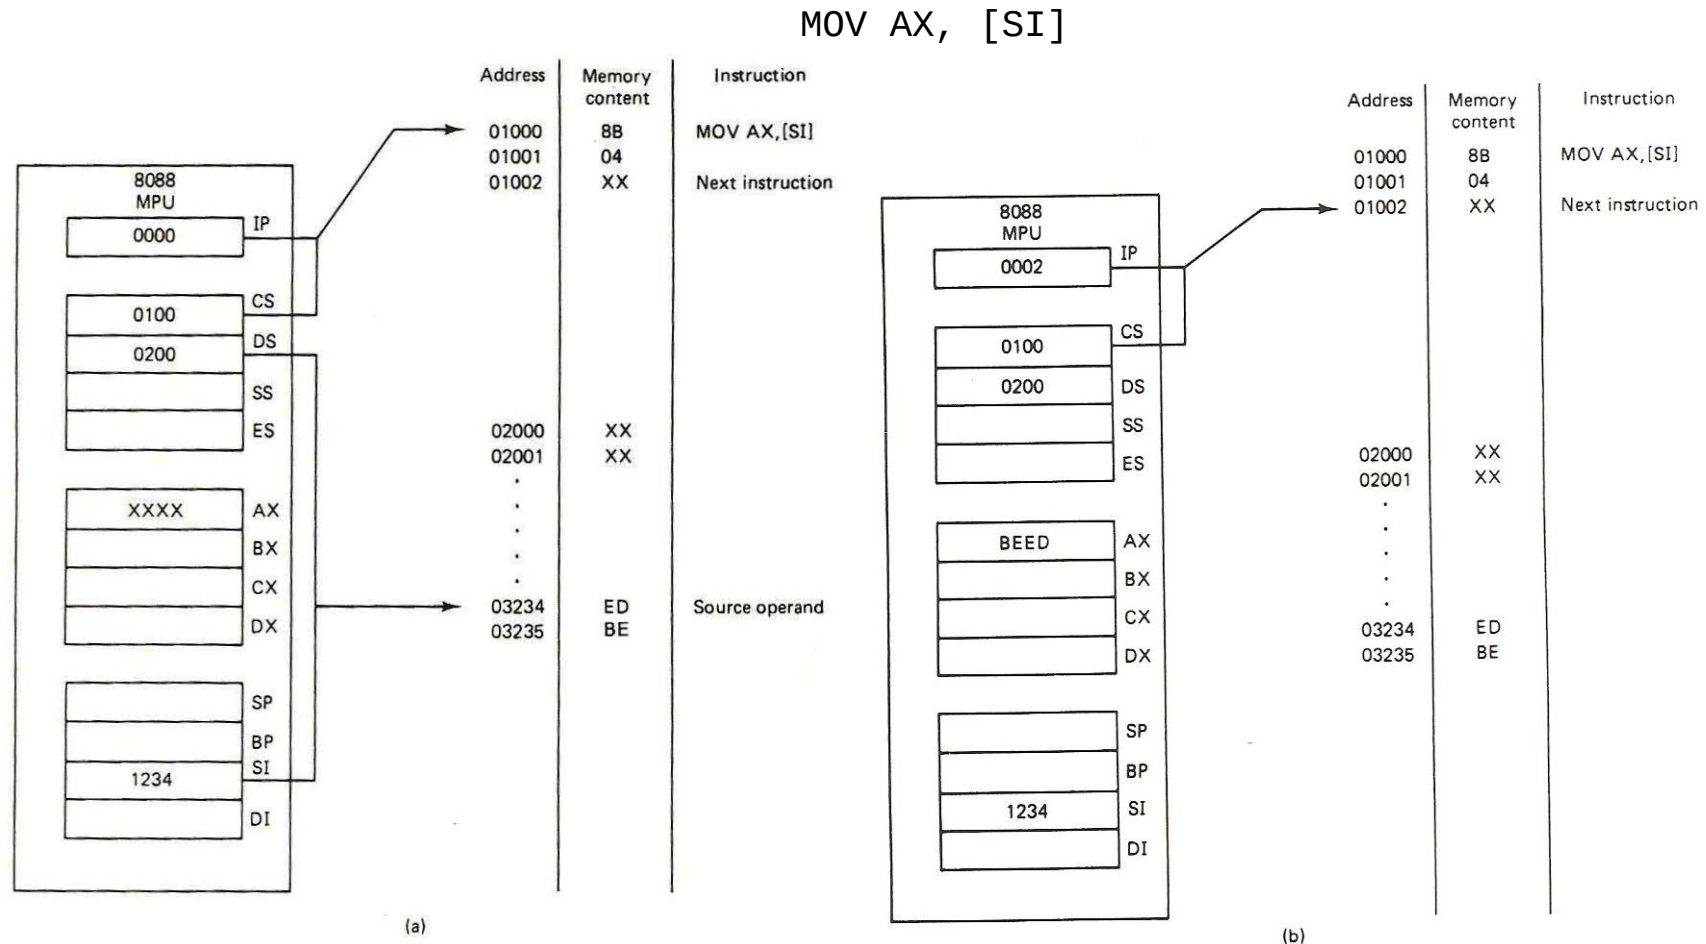

Fig 5(a) before fetching and execution (b) after execution
3.3.2 Register indirect addressing: this mode is similar to the direct addressing but the offset is specified in a base register (BX), base pointer (BP) or an index register (SI or DI) within the 8086. Fig 5 below shows the memory and registers before and after the execution of instruction: